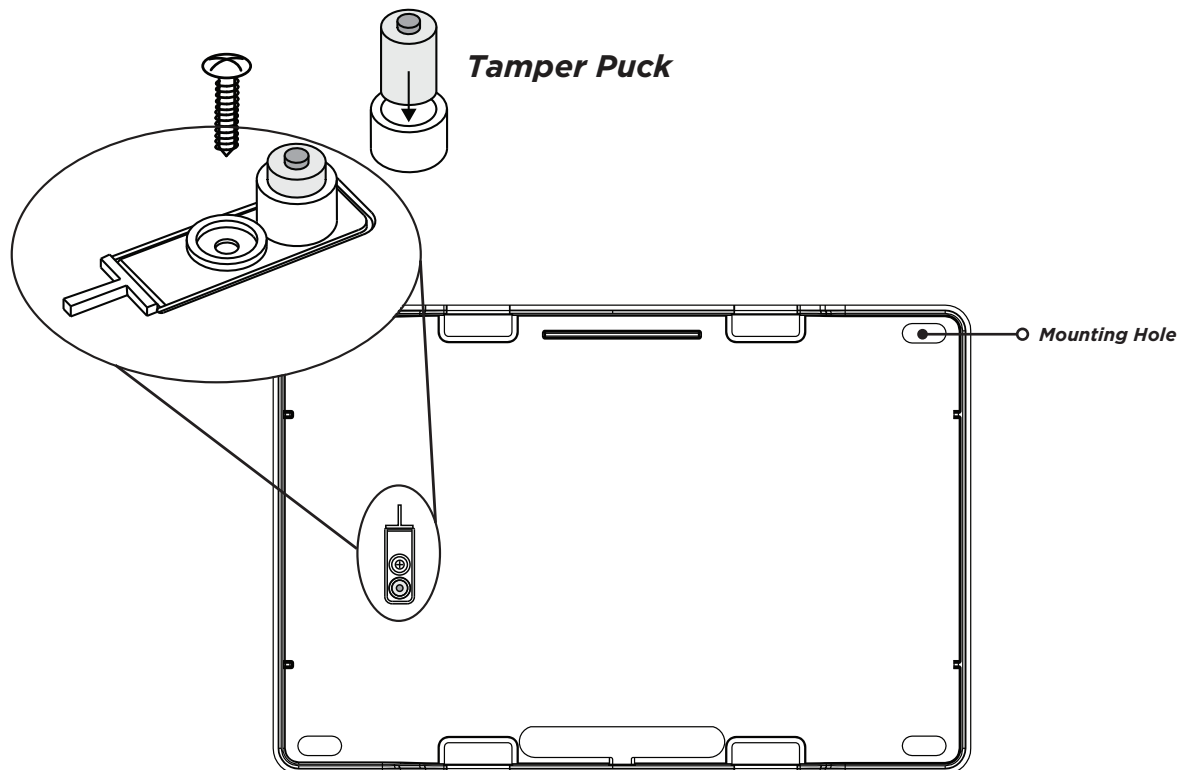

Figure 2: Inside of the 1100INT Housing
2. Mount the receiver on a flat surface using the supplied screws. See Figure 2 for mounting hole locations.